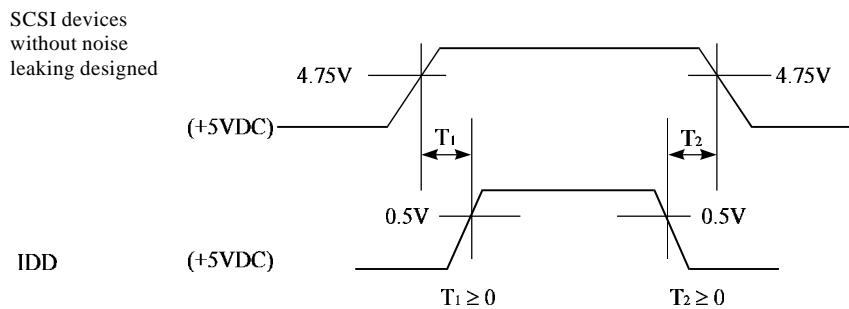

Figure 4.16 Power on/off sequence (3)
- In a system containing an SCSI device which is not designed to prevent noise from leaking to the SCSI bus, the requirement given in Figure 4.16 must be satisfied between that SCSI device and the IDD.